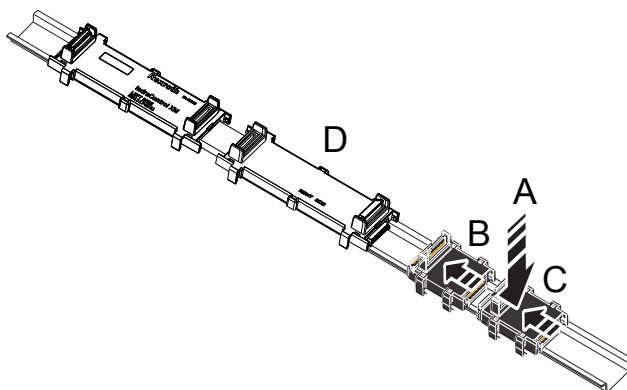
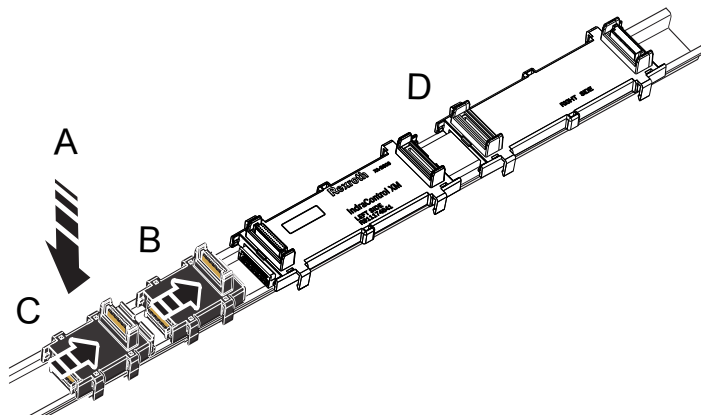

Fig. 10-8: Interconnect S20 bus bases and to the control bus base
Fig. 10-10: Interconnect extension bus bases and connect them to the control bus base
3. Mount the S20 bus bases and the bus bases for the extension modules, refer to fig. 10-8 "Interconnect S20 bus bases and to the control bus base" on page 21 and fig. 10-10 "Interconnect extension bus bases and connect them to the control bus base" on page 23.